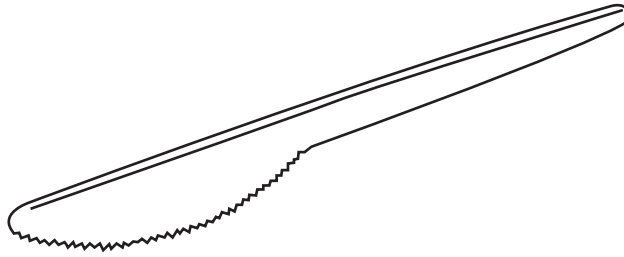

Fig. 2
- 2 Fig. 2 shows a thin polystyrene knife made for fast food restaurants. Due to the quantities required it must be very cheap to produce.